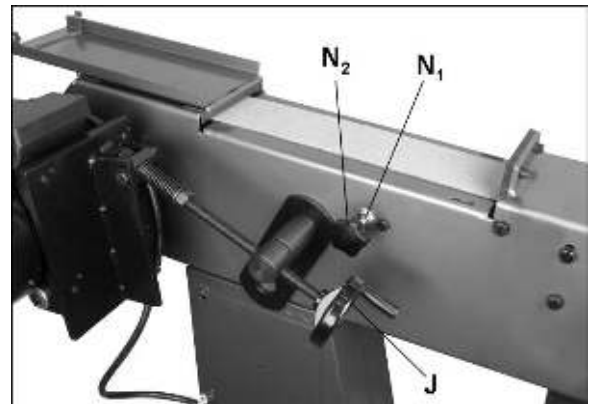

Fig 7
Workstop assembly (E) – Loosen handle to adjust. Workstop assembly can be removed and stored on tube (see T, Fig.7) when not in use.
3. Remove tension from belt by rotating handwheel (J, Fig. 7) counterclockwise.
4. Tension belt with handwheel (J).
2. Remove tension from abrasive belt (J, Fig 7).
1. Loosen hex nut (N1, Fig.7) counter-clockwise.